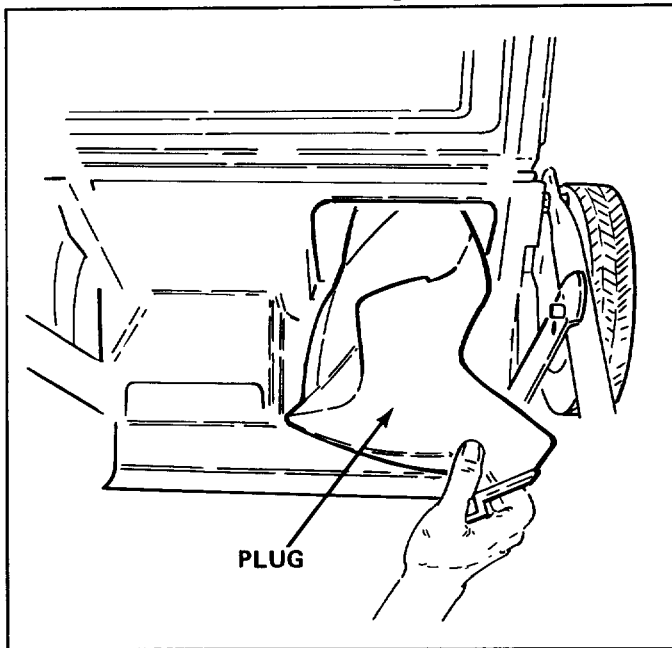

Figure 5
4. Since the plug is slightly wider than the discharge tunnel opening, you must rotate the plug counterclockwise while inserting it (Fig. 5).